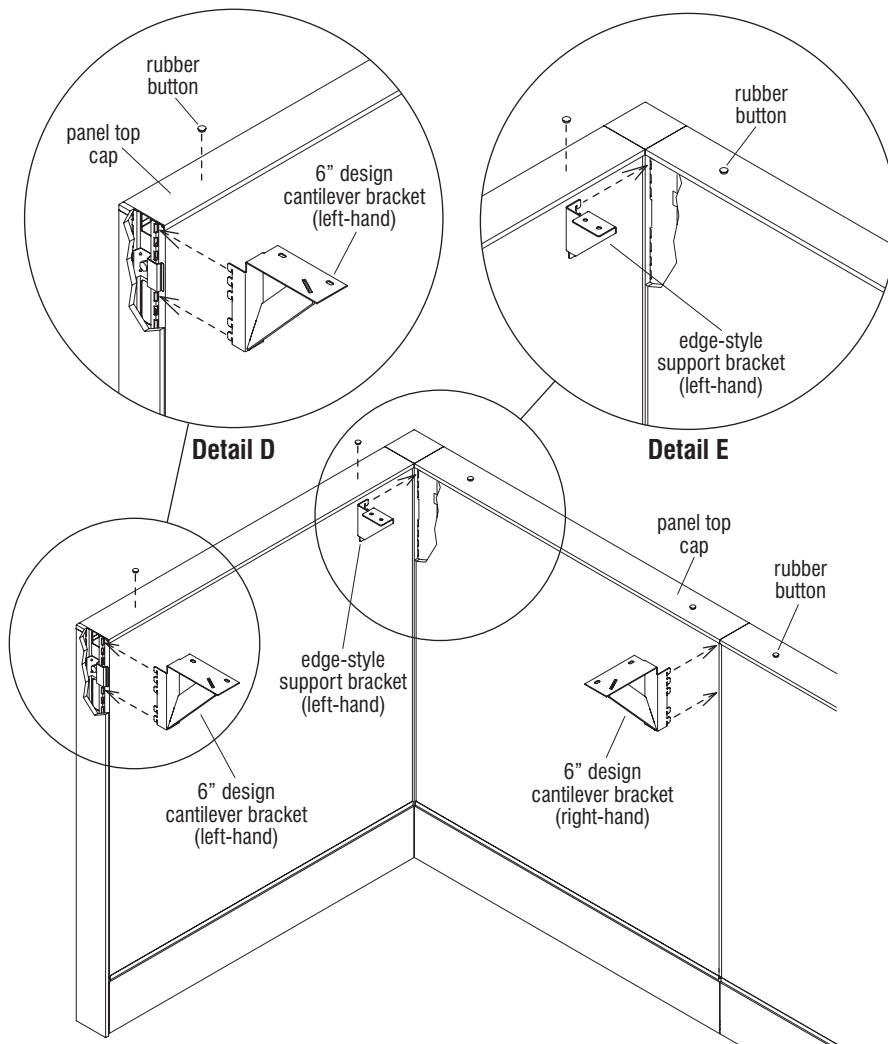

Figure 5
top caps as illustrated. Spacing of buttons is approximate, and buttons prevent the countertop from incidental contact with the top cap (Figure 5).
2. Reference the Figure 5 illustration on this page, then locate from the parts bag and identify the different support brackets required. The 6" design cantilever brackets are right- or left-hand in design, so one style of bracket will install to the far left-hand side, and the other style will install on the far right-hand side of the corner panel unit, to support a corner transaction countertop. All brackets must be installed to the inside (workstation side) of the panels. Additionally, an edge-style support bracket must be installed at the center, inside corner of the corner transaction countertop (Figure 5).
3. To install a right- or left-hand cantilever design bracket, first identify the top slot of the panel vertical post and insert the top tooth of the appropriate design bracket into that top slot. Engage all teeth into slots in the vertical post, then press down firmly to engage all teeth into the slots. The horizontal top of the bracket should be about $\frac{1}{8}$ " above the top of the panel top cap. Check bracket for full engagement by pulling straight back firmly in a horizontal motion (Figure 5 & Detail D).
4. Repeat step 3 above for the cantilever design bracket at the other side. Next locate the "edge-style support bracket (left-hand)" to be installed at the inside corner location (Detail E). Position the edge bracket as illustrated, identify the top slot of the panel vertical post and insert the top tooth of the bracket into the top slot. Engage all teeth into slots in the vertical post, then press down firmly to engage teeth into the slots. The horizontal top of the bracket should be about $\frac{1}{8}$ " above the top of the panel top cap (Figure 5 & Detail E).